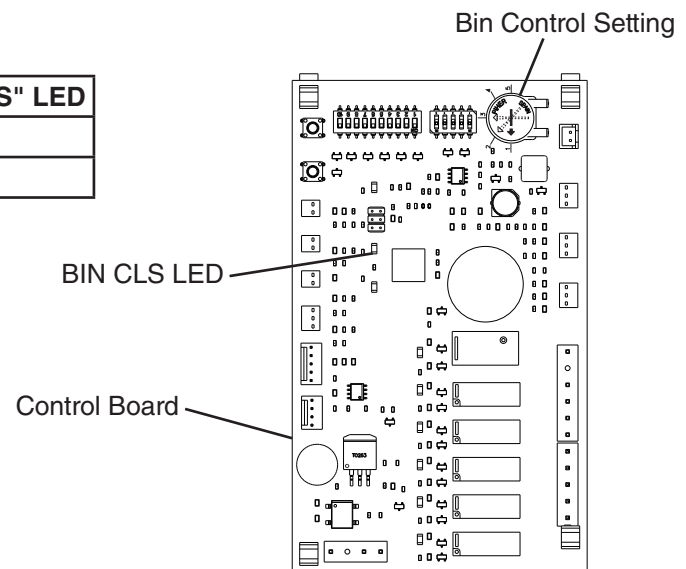

Fig. 18
- 5) Confirm the control board "BIN CLS" LED is off (bin empty). See Fig. 18.